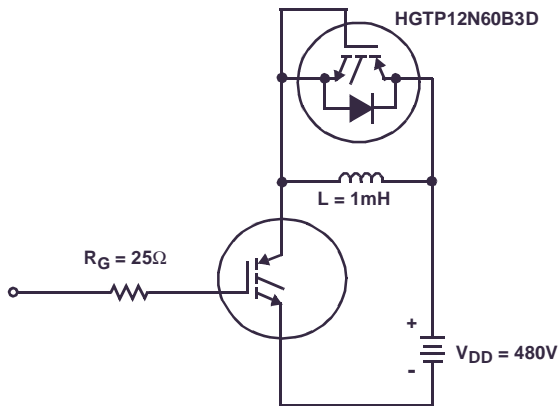

FIGURE 17. INDUCTIVE SWITCHING TEST CIRCUIT
| Turn-On Energy (Note 4) | E_{ON1} | Test Circuit (Figure 17) | - | 150 | - | μJ |
| Current Turn-On Delay Time | $t_{d(ON)I}$ | IGBT and Diode at $T_J = 150^\circ\text{C}$ $I_{CE} = 12\text{A}$ $V_{CE} = 480\text{V}$ $V_{GE} = 15\text{V}$ $R_G = 25\Omega$ $L = 1\text{mH}$ Test Circuit (Figure 17) | - | 22 | - | ns |
- Values for two Turn-On loss conditions are shown for the convenience of the circuit designer. E_{ON1} is the turn-on loss of the IGBT only. E_{ON2} is the turn-on loss when a typical diode is used in the test circuit and the diode is at the same T_J as the IGBT. The diode type is specified in Figure 17.